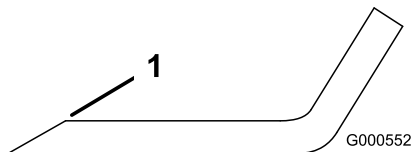

Figure 91
1. Use a file to sharpen the cutting edge at both ends of the blade (Figure 91).
Note: If the blade is not balanced, file some metal off the end of the sail area only (Figure 91).